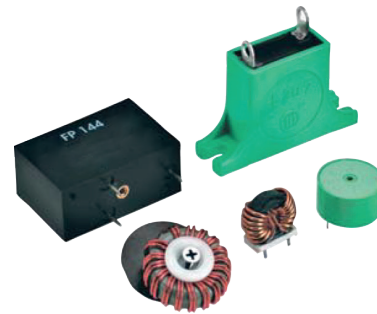

Fig. 19
- Different filters and ring core chokes for ripple and interference reduction; see fig. 19